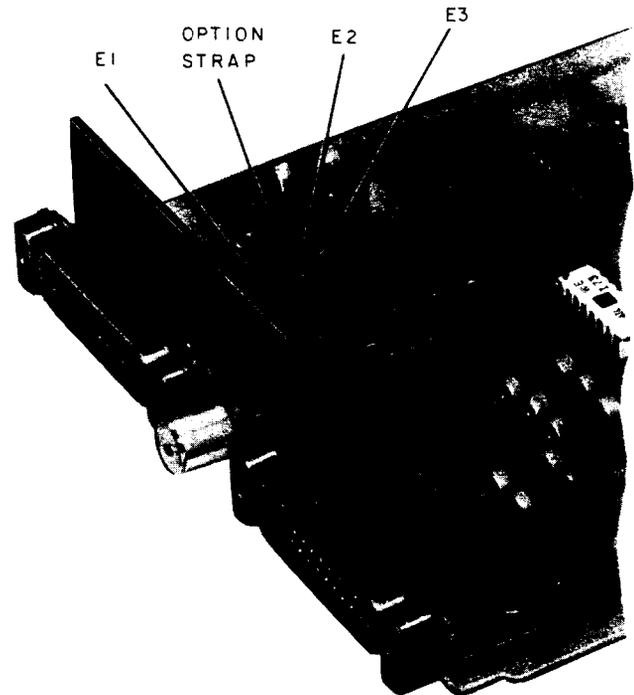

Fig. 1—DAS 831A Options
2.01 The options required for DAS 831A are given in Table B. Location of the option terminals is identified in Fig. 1. Table C gives the options required when DATAPHONE II data sets are used for point-to-point operation. The options for DATAPHONE II data set multipoint operation are given in Table D.
Note: See Fig. 1.